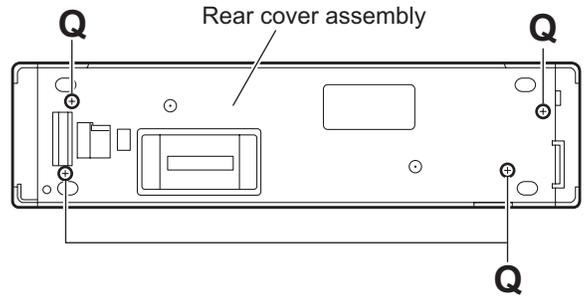

Fig.15
3.1.10 Removing the front board (See Figs.15 to 17)
- (1) From the rear side of the front panel assembly, remove the four screws **Q** attaching the rear cover assembly to the front panel assembly. (See Fig.15)